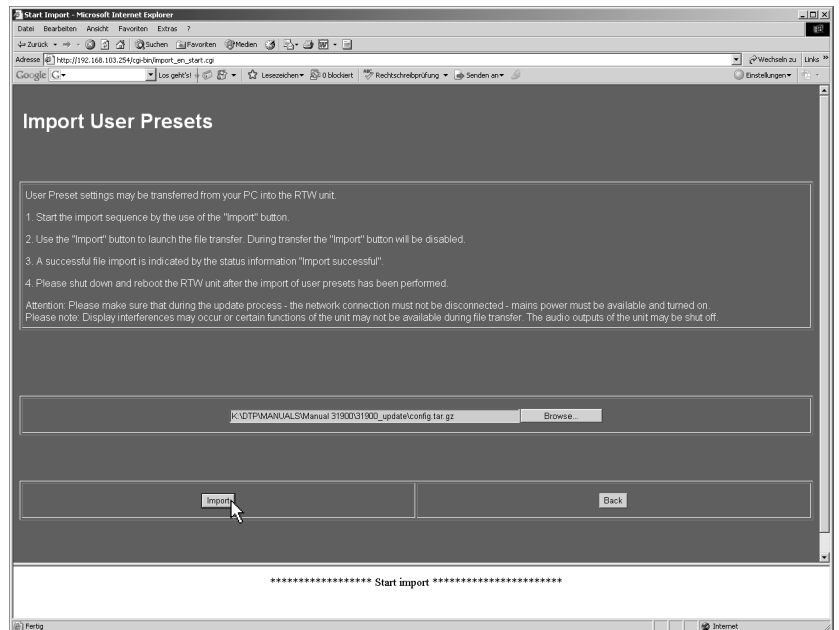

Fig. 8-23: Starting the import
5. A click to the Import button starts the data transfer to the SurroundControl units (see Fig. 8-23). If the Import button is not visible move the menu page upward by using the scrollbar on the right. **Please make sure that no interruption of the network access or supply power occurs during the download sequence.**